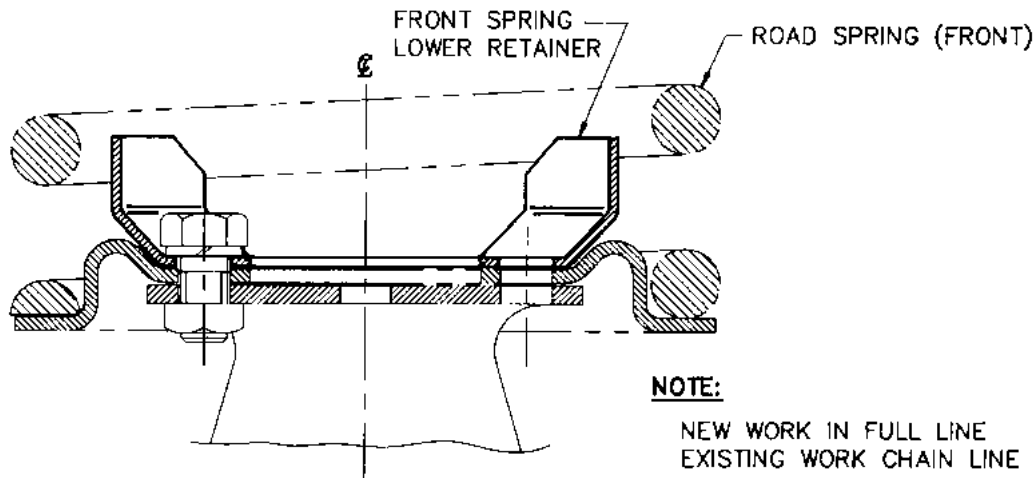

Figure 1 – Front Lower Spring Seat Retainer
11. The procedure for fitting of the front coil spring retainers is as follows, with reference to Figure 1 for the retainer position: